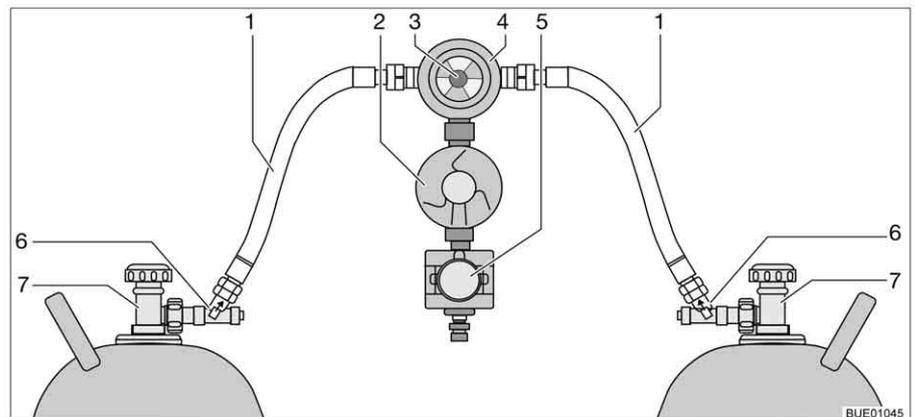

Fig. 127 Crash protection unit switching facility
The crash protection unit consists of two flow restrictors with manual release button (Fig. 127,6) a reversing valve (Fig. 127,4) with pressure regulator (Fig. 127,2), an electrovalve (Fig. 127,5) and the operating unit with tricoloured LED. The reversing valve is installed between the two gas tubes (Fig. 127,1).
Use the knob (Fig. 127,3) on the reversing valve to select which of the gas bottles is to be used as a primary bottle and which is to be used as a reserve bottle.
Only the electrical functions can be switched at the operating unit (Fig. 128). The regulator taps on the gas bottles (Fig. 127,7) and the release buttons (Fig. 127,6) must be opened manually.
- Open the regulator taps of the gas bottles (Fig. 127,7).
- Press the release buttons (Fig. 127,6) successively for 10 seconds.
- Use the knob (Fig. 127,3) on the reversing valve (Fig. 127,4) to select the gas bottle which is to be the primary source of gas (primary bottle). Always turn the knob as far as it will go.
- Close the regulator taps of the gas bottles (Fig. 127,7).